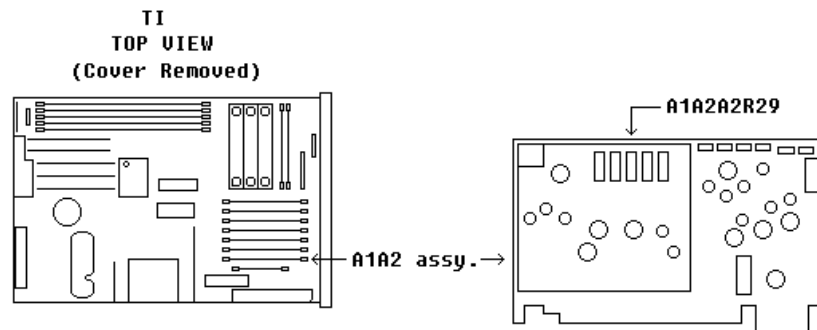
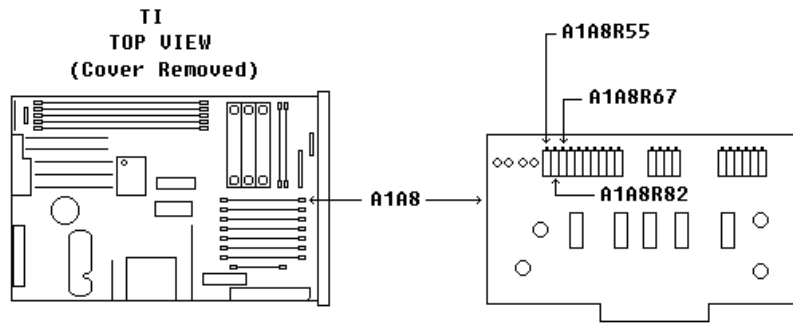

Figure 7. A1A2 board.
Figure 8. A1A8 board.
- (6) Press TI RCL 1.
- (7) Adjust A1A2A2R29 (fig. 7) for a measuring receiver indication of -3.0 dBm (R).
- (8) Using **TUNE KNOB**, tune the test instrument from 2 to 6.6 GHz. Record minimum and maximum measuring receiver indications and frequencies where they occur.
- (9) Adjust A1A8R55 (fig. 8) to reduce the difference between minimum/maximum power indications (R).
- (10) Using **TUNE KNOB**, tune the test instrument to 2 GHz.
- (11) Readjust A1A2A2R29 (fig. 7) for a measuring receiver indication of 3.0 dBm.
- (12) Tune the test instrument from 2 to 6.6 GHz. Verify that the output level stays within ± 1 dB of -3 dBm.
- (13) Repeat (8) through (12) above until level stays within 1 dB of -3 dBm or until no further improvement can be made.
- (14) Press TI **RCL 2**.
- (15) Using **TUNE KNOB**, tune the test instrument from 6.600002 to 12.99902 GHz. Record minimum and maximum measuring receiver indications and frequencies where they occur.
- (16) Adjust A1A8R82 (fig 8) to minimize difference between minimum and maximum power indications (R).
- (17) Press TI **SWEEP MODE OFF, FREQ INCR, 2, 0, 0**, and **MHz** keys.
- (18) Verify the measuring receiver indicates -3 dBm ± 0.2 dBm. Readjust A1A2A2R29 (fig. 7) as necessary for best compromise.
- (19) Using **TUNE KNOB**, tune the test instrument from 2 to 12.2 GHz. Verify that the difference between the minimum and maximum power indications are equal to or less than 3 dB.
- (20) Press TI **RCL** and **3** keys.
- (21) Using **TUNE KNOB**, tune the test instrument from 12.300003 to 17.59999901 GHz. Record minimum and maximum measuring receiver indications and frequencies where they occur.
- (22) Adjust A1A8R67 (fig. 8) to minimize difference between minimum and maximum power indications (R).
- (23) Press TI **SWEEP MODE OFF**, **FREQUENCY**, **2**, and **GHz** keys.
- (24) Adjust A1A2A2R29 (fig. 7) for a measuring receiver indication of -3.0 dBm.